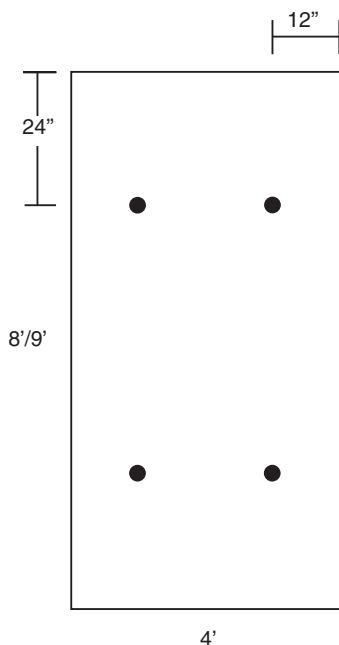

Figure 3
- a. Attach the GreenGuard® PLYGOOD PG38 to the existing roof deck using 2-3" (76 mm) diameter plates and screws that are long enough to penetrate through the existing roof system to the underlying roof deck. Attach GreenGuard® PG38 using the fastening pattern shown in Figure 2 or Figure 3. Alternative fastening patterns must be approved by the roofing recovery board manufacturer prior to starting the job. Additional fasteners may be used if necessary to secure the roofing recovery board during windy conditions or when the surface of the existing roof system has inconsistencies. Note: Factory Mutual Research requires that a minimum of 4 fasteners (1 fastener/4 ft²) be used for insulations having any one dimension greater than 4 feet (1.2 m) on all jobs that involve buildings insured by Factory Mutual underwriter companies.